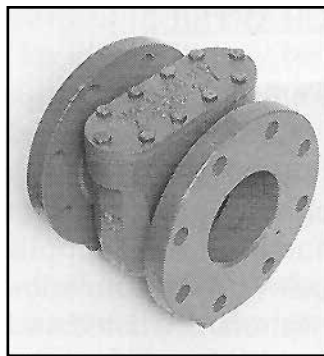

Fig. 13
***Plate or Expanded Cross Section Strainers (Fig. 13)***